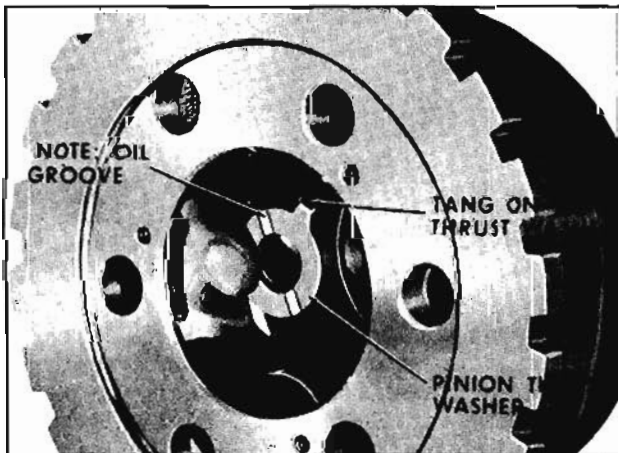

Fig. 6-394 Installing Rear Thrust Washer
2. Install the long planet pinion gears, then install the rear planet pinion thrust washers. Oil groove must be toward pinion gear. (Fig. 6-394)